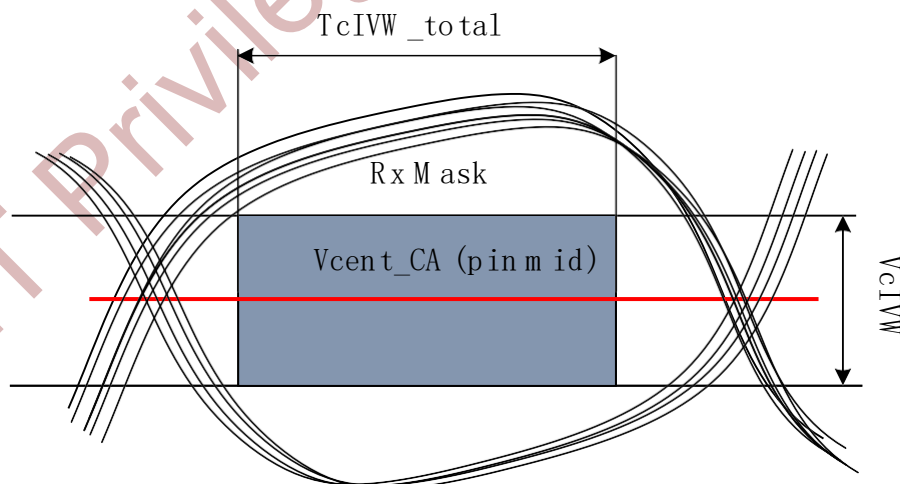

Figure 8-24 CA Receiver(Rx) Mask
The command and address(CA) including CS input receiver compliance mask for voltage and timing is shown in Figure 8-24. All CA, CS signals apply the same compliance mask and operate in single data rate mode.